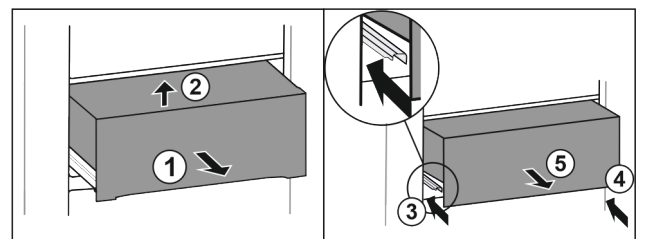

Fig. 27*
- ▶ Pull out the drawer half-way Fig. 27 (1).*
- ▶ Lift at the front Fig. 27 (2).*
- ▶ Insert left rail Fig. 27 (3).*
- ▶ Insert right rail Fig. 27 (4).*
- ▶ Take out the drawer to the front Fig. 27 (5).*